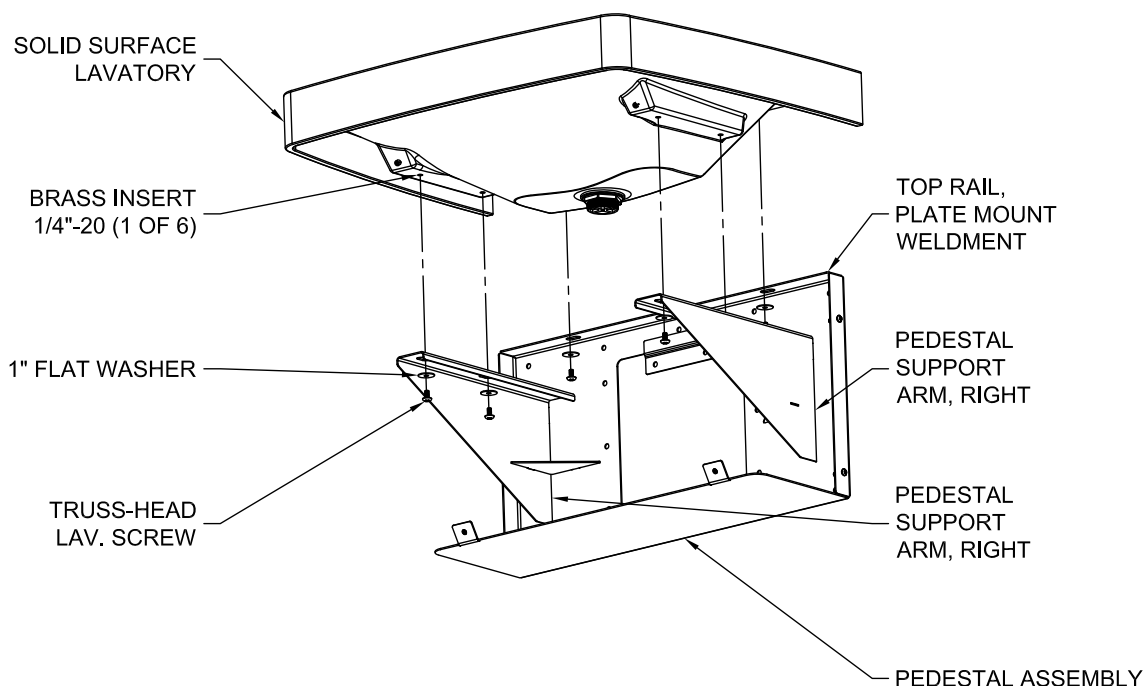

FIG. 2- LAVATORY MOUNTING
1. With assistance, place the Solid Surface Lavatory on the Pedestal support arms (**SEE FIG. 2**).
2. Align the bottom (6) Brass Inserts in the Lavatory with the corresponding through-mounting holes in the Pedestal: (2) hole in each Pedestal support arm, (2) on the top Plate Mount Weldment rail.
3. Insert and adequately tighten the (6) Truss-head Screws into the Lavatory Brass Inserts.